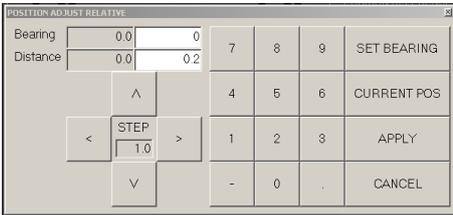

Figure 56: Change Position Dialog Box
2. Enter the direction to move to in the dialog box that appears (*Figure 56: Change Position Dialog Box on page 65*).